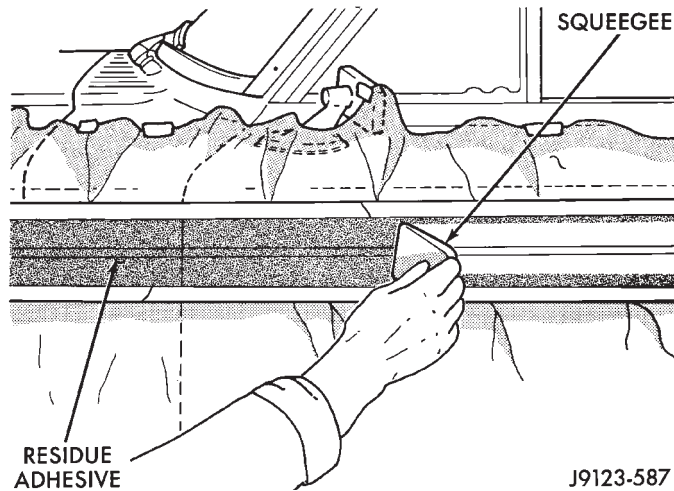

Fig. 64 Adhesive Removal With A Squeegee
(4) After the stripe/decals is removed, remove any adhesive remaining on body with a removal solution.
(5) After 3 to 5 minutes, use a squeegee to remove adhesive (Fig. 64).